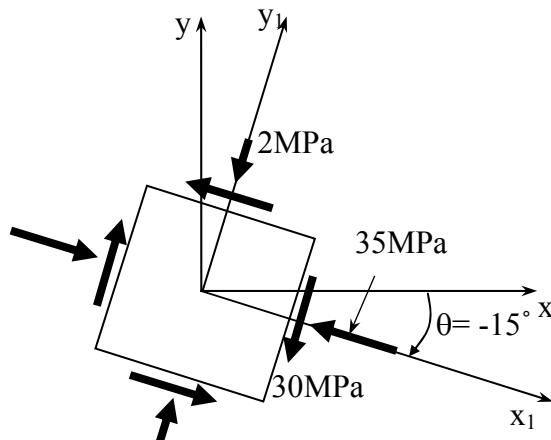

Figure 6
6. (a) Figure 6 shows a stress element oriented with respect to coordinate system x_1-y_1 . Draw Mohr's circle for the state of stress represented by Figure 6. Indicate the stresses on the Mohr's circle. Using the Mohr's circle drawn,